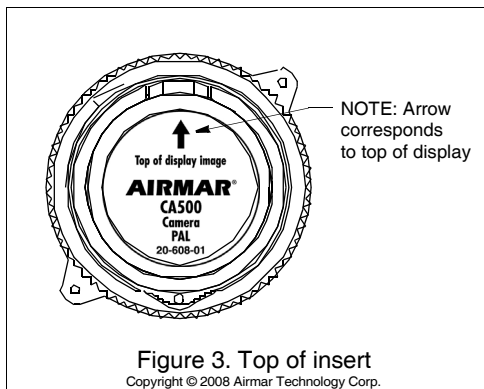

Figure 3. Top of insert
6. Slide the camera insert into the housing. Note the arrow on the top of the insert (see Figure 3). *The direction that the arrow points will correspond to the top of the display screen.* Adjust the insert to point in the intended direction. (Most installations
7. Attach the safety wire (see Figure 3).